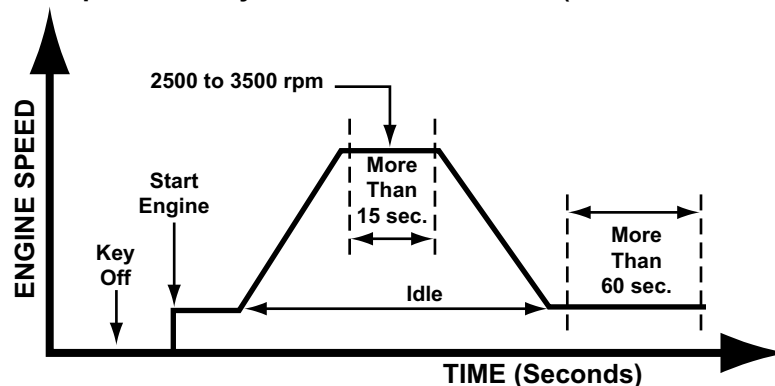
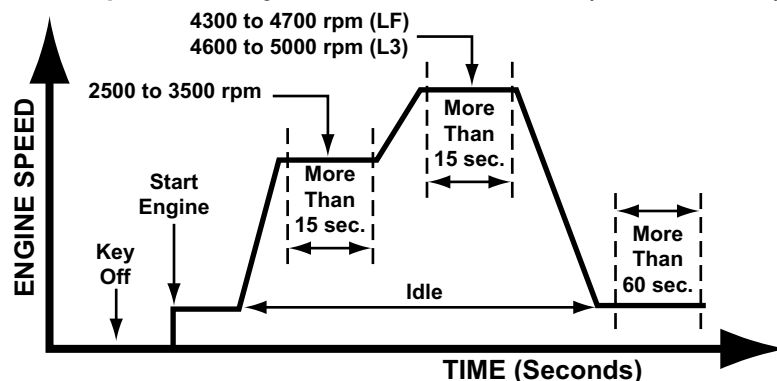

Figure MA000-30 California emission specification model
Figure MA000-31 Federal emission specification model
3. Perform no load racing at RPM shown in Figure MA000-30 or Figure MA000-31, then idle engine for more than 20 seconds after cooling fan has stopped. If possible, monitor RPM PID for engine speed during this procedure.